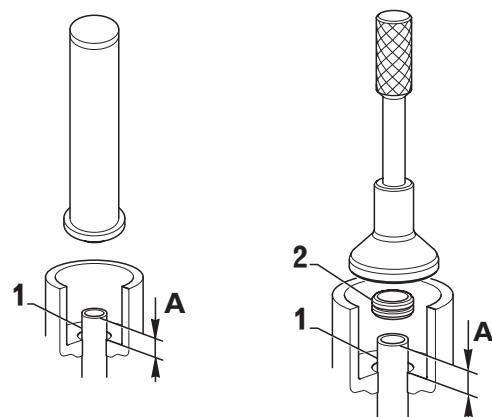

FIG. 4-2b
- Adjust oil suction pipe to measure "A" ( $A = 26$  mm) (Fig. 4-2b).